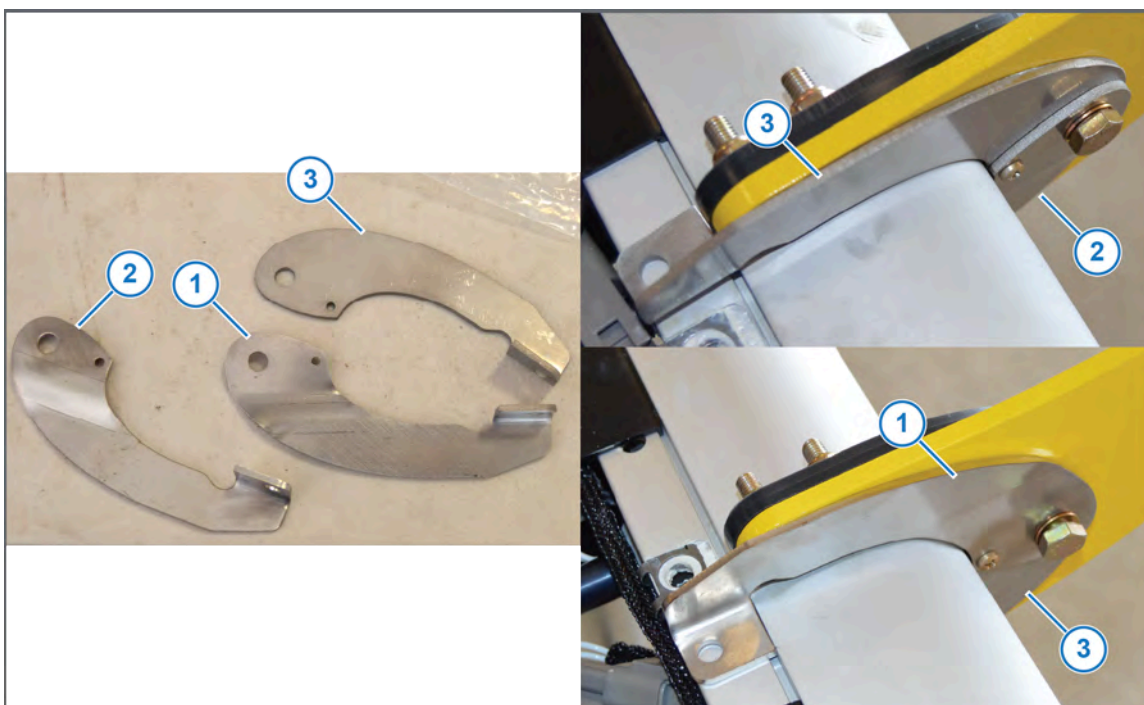

Figure 8: Boom Hanger Tabs
- Boom Hanger Tab—Right (Figure 8, Item 1)
- Boom Hanger Tab—Left (Figure 8, Item 2)
Make sure that each boom hanger tab assembly has a straight piece (Figure 8, Item 3), and a curved piece.
See Figure 8